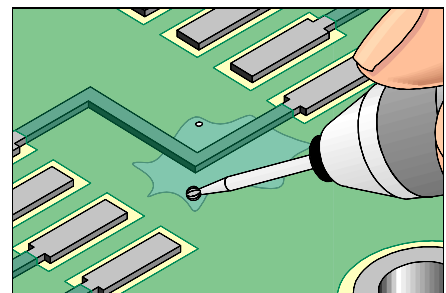

Figure 1: Drill into the delamination blister using a ball mill and a Micro-Drill.
2. Drill into delamination blister with the Micro-Drill and ball mill. Drill in an area clear of circuitry or components. Drill at least two holes opposite each other around the perimeter of the delamination. (See Figure 1). Brush away all loose material.